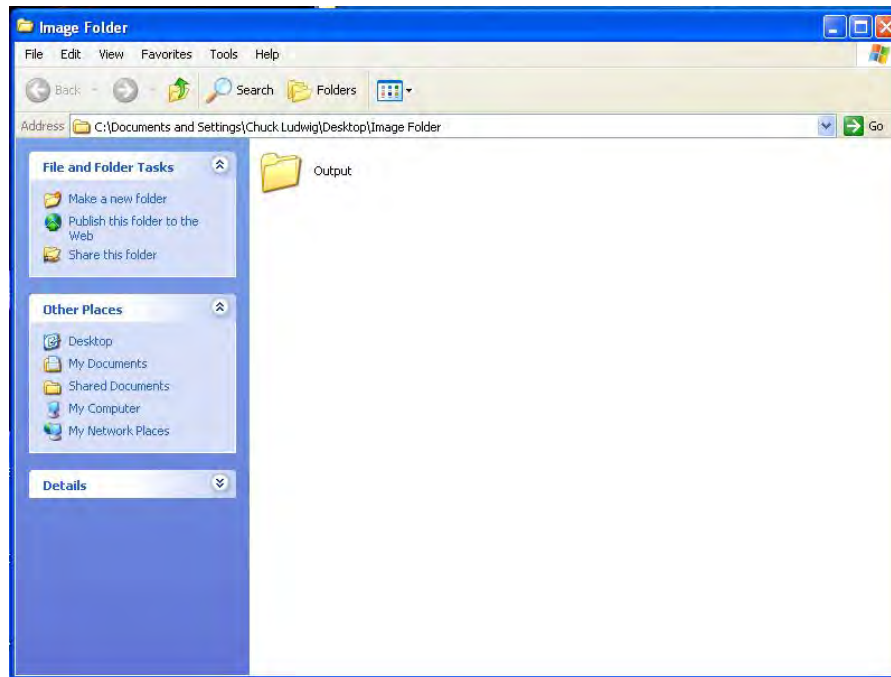

Figure 1. Output folder for saving image work in the Images Folder
3. Label the folder Output (see Figure 1)